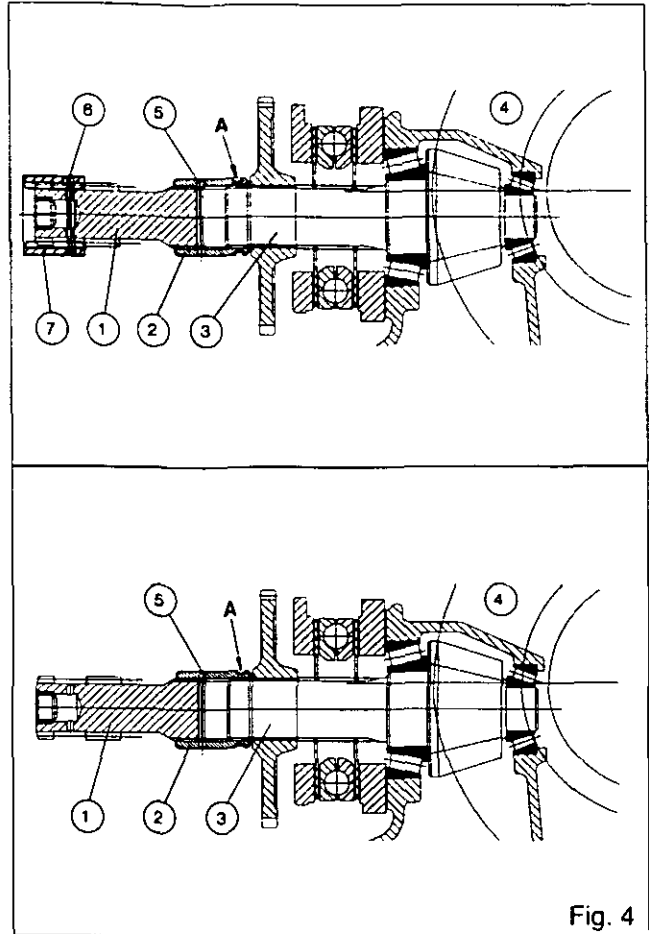

Fig. 4
**N.B.: Groove A in sleeve (2) should be towards the differential ring gear (4) (Fig.4).**
- 8 cyl. engines : see Fig. 4.